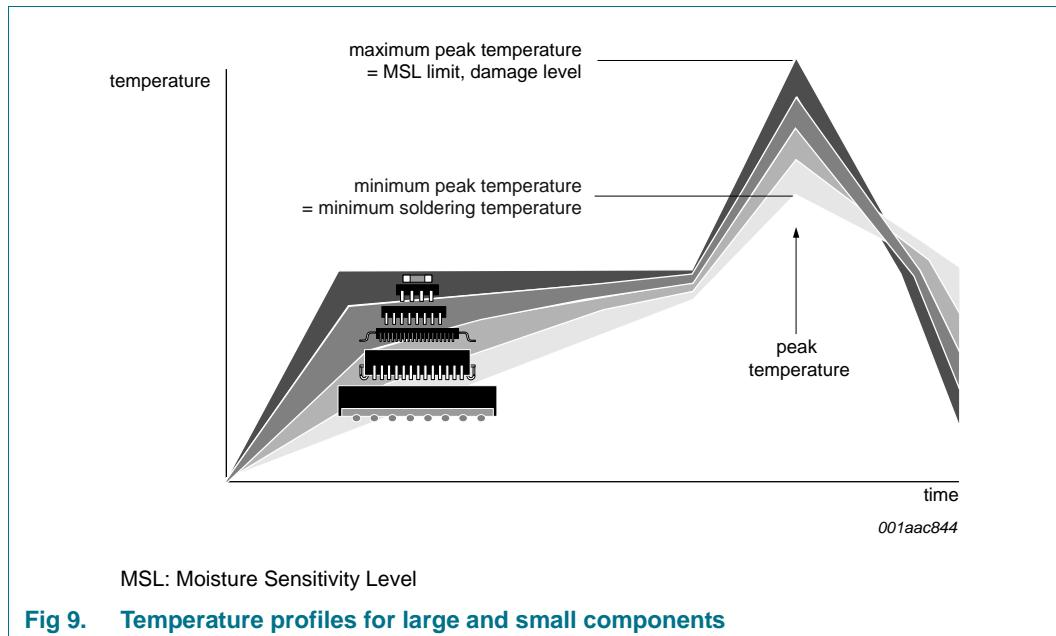

Fig 9. Temperature profiles for large and small components
- Lead-free versus SnPb soldering; note that a lead-free reflow process usually leads to higher minimum peak temperatures (see Figure 9) than a SnPb process, thus reducing the process window
Studies have shown that small packages reach higher temperatures during reflow soldering, see Figure 9.